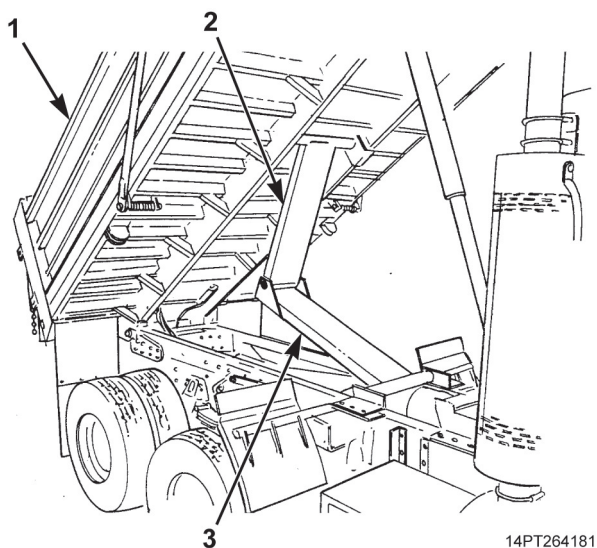

Figure 2. Securing Stabilizer.
- Working from underside of vehicle, secure lower half (Figure 2, Item 3) of stabilizer to upper half (Figure 2, Item 2) and to dump body (Figure 2, Item 1) using a suitable chain or nylon strap.
- Raise front of dump body (Figure 2, Item 1) and support on body props (WP 0005) using a suitable lifting device with chains.